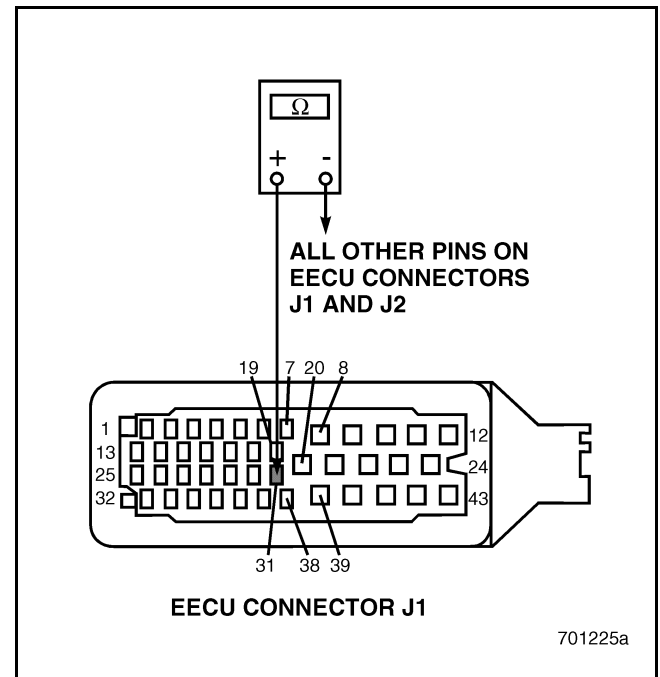

Figure 358
3. Check for continuity between EECU connector J1 pin 31 and all other pins on EECU connectors J1 and J2 (see Figure 358).